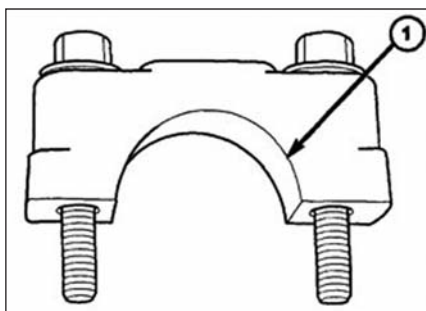

Figure 2 Lightly chamfer bore radius edges on 2.0L, 2.4L engines with a hand file, creating a 45° chamfer along the edge of each bore radius.
3. Lightly chamfer the two bore radius edges with a small hand file, creating a 45° chamfer 1.0 to 1.5 mm in width along the edge of each bore radius (see **Figure 2**).